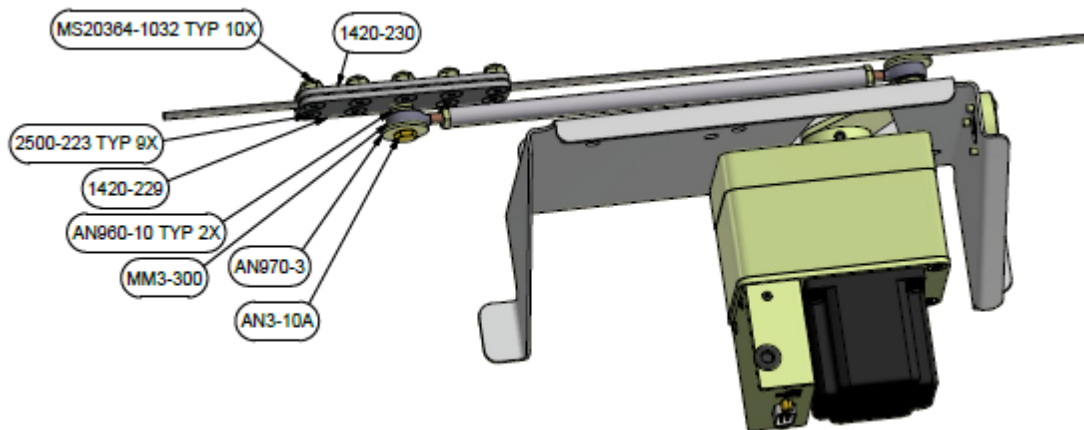

Figure 2-29
- 1.42. Loosely assemble the roll cable clamp assembly around the aileron cable as shown in Figure 2-29 if 7200-096 IR was used or Figure 2-30 if 7200-096 Rev A was used so that the clamp will freely move on the aileron cable.